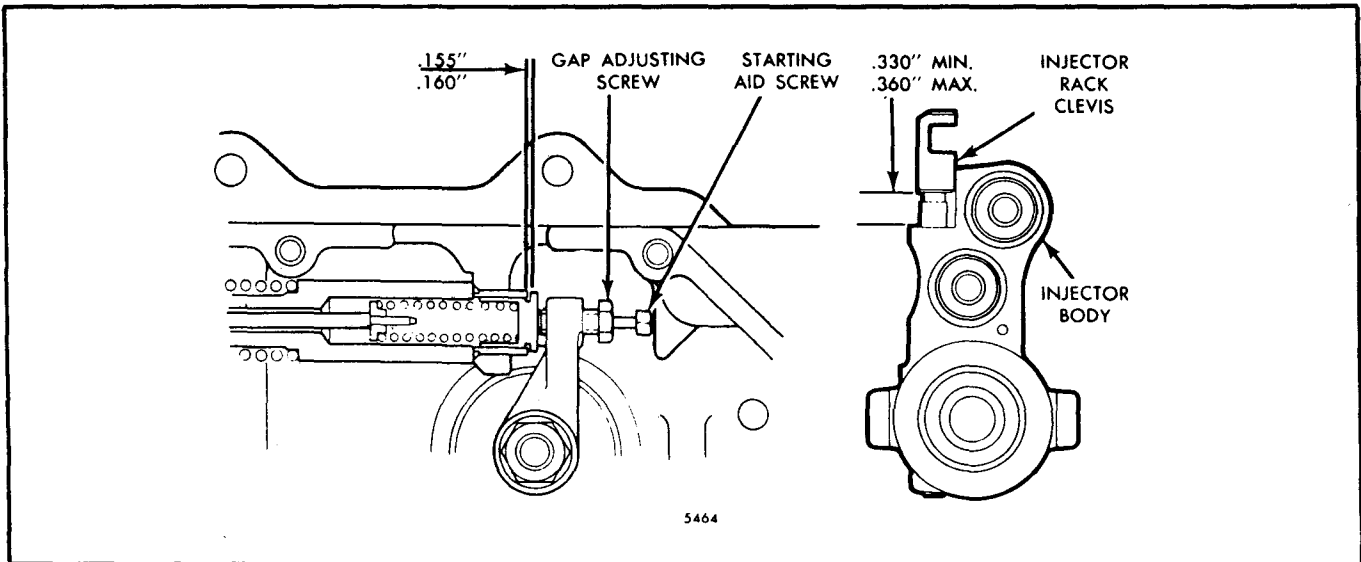

Fig. 7 - Starting Aid Screw Adjustment
The starting aid screw (Fig. 7) is threaded into the governor gap adjusting screw. This screw is adjusted to position the injector racks at less than full fuel when the governor speed control lever is in the idle position. The reduced fuel makes starting easier and reduces the amount of smoke on start-up.
2. Hold the gap adjusting screw, to keep it from turning, and adjust the starting aid screw to obtain .330" to .360" clearance between the shoulder on the No. 3R injector rack clevis and the injector body (Fig. 7), with the head of the starting aid screw against the governor wall.
NOTE: With the *engine stopped*, this adjustment will provide a gap of .155" to .160" between the high-speed spring plunger and the low-speed spring cap (Fig. 7).